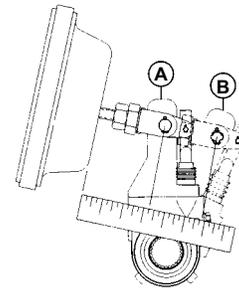

Figure 5 - Measuring Maximum Stroke
- Using a ruler, measure the distance from the face of the air chamber to the center of the large pin in the clevis (A). Make a 90 to 100 psi reservoir pressure brake application and measure the difference between Dimension (A) and Dimension (B) - Figure 5. Check the following chart for proper maximum applied stroke after adjustment of the brakes.
1. The Midland/Gunite automatic brake adjuster should not require manual readjustment. If the maximum chamber stroke is within the range for the size chamber used (See Figure 5, Page 13), the brake adjuster should not be manually readjusted.